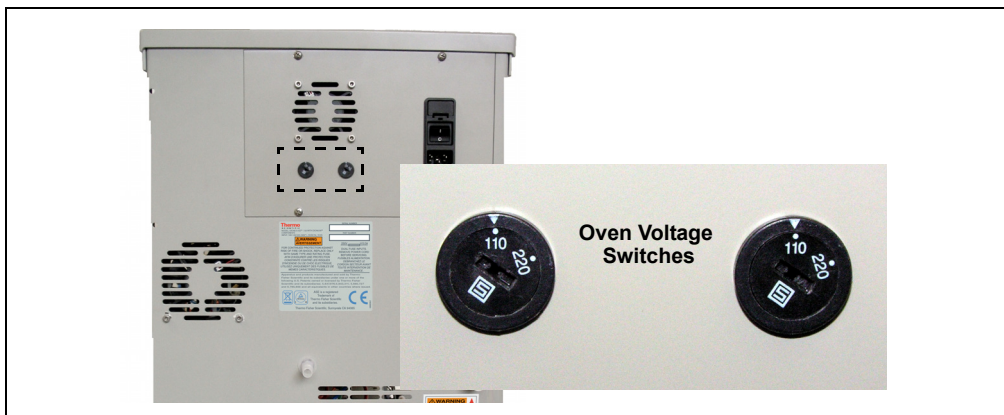

Figure B-2. Oven Voltage Switches
1. Verify that the settings of both oven voltage switches on the Dionex ASE 150 rear panel (see Figure B-2) match the voltage from the power source at the installation site: either **110** (for voltages between 100 and 120 Vac) or **220** (for voltages between 220 and 240 Vac).